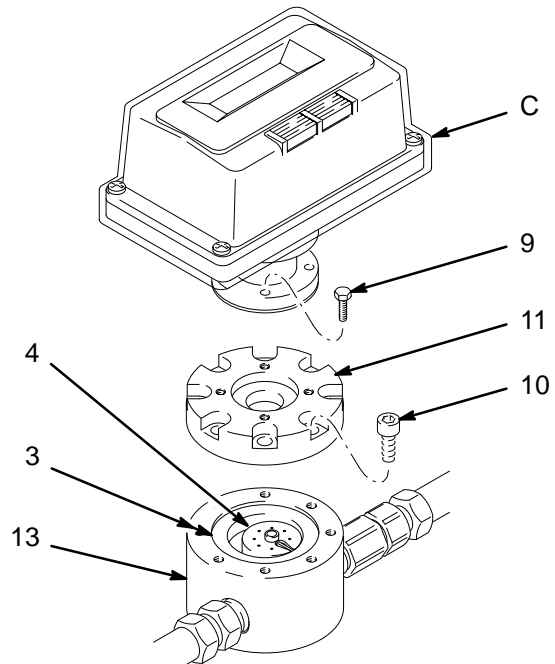

Fig. 6
2. Remove the four screws (9). See Fig. 6.
3. Separate the display module (C) and the meter cover (11).
4. Remove the eight screws (10).
5. Separate the meter cover (11) and the fluid chamber (13).